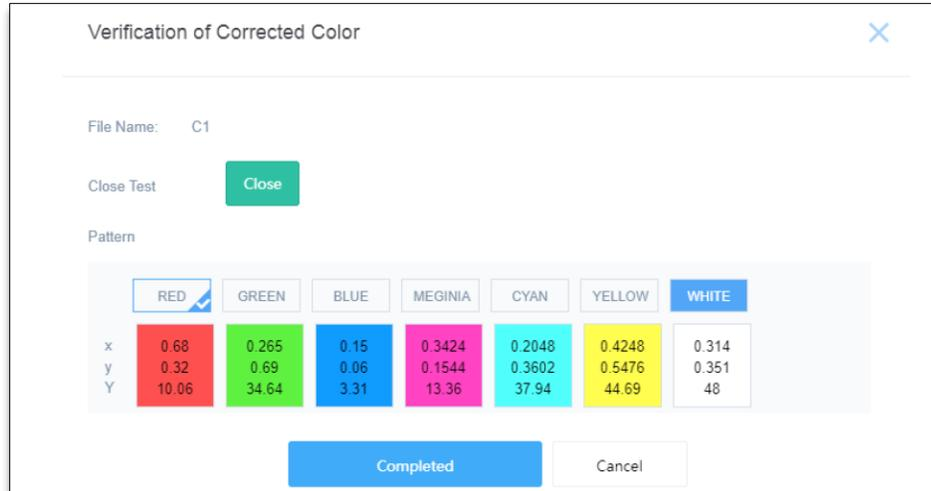

Figure 32:
| ⑨ | Save and Calibrate | Save and calibrates the current color file, as shown in Figure 32 . Checks whether the color is within the standard range after calibration. If yes, it is qualified. Otherwise, you need to find the reason. |